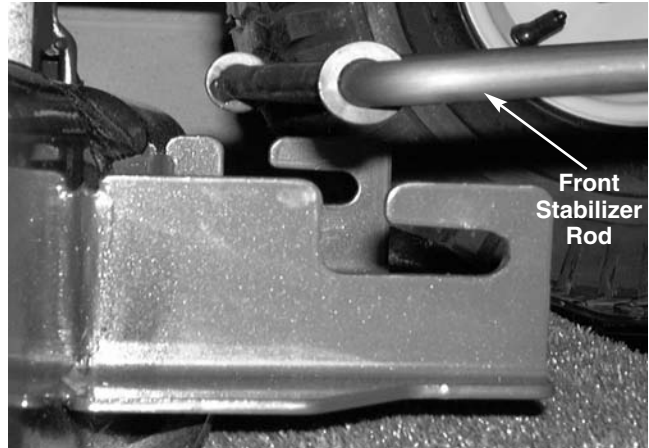

FIGURE 3.
- 7). Slide the cutting deck forward and release the front deck hangers off of the front stabilizer rod. **DO NOT DROP** the deck to the ground. See figure 3.